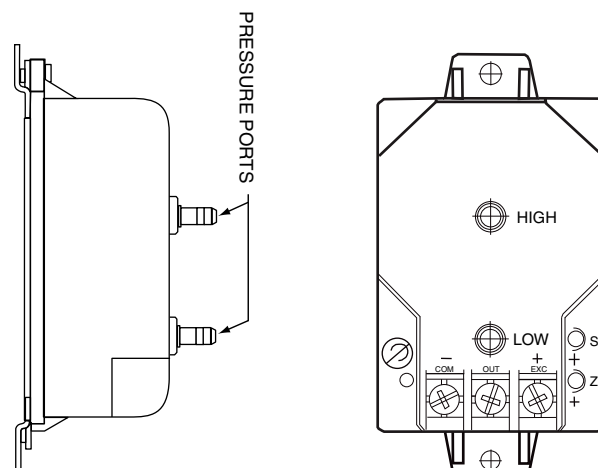

Fig. 55 — Transducer Details
3. Connect a 24-vdc power supply to transducer terminals EXC(+) and COM(-). See Fig. 55.
5. With both pressure ports open to atmosphere, adjust the Zero (Z) screw potentiometer on the transducer and read the multimeter until the desired current output at 0 in. wg pressure is obtained (see Fig. 55).